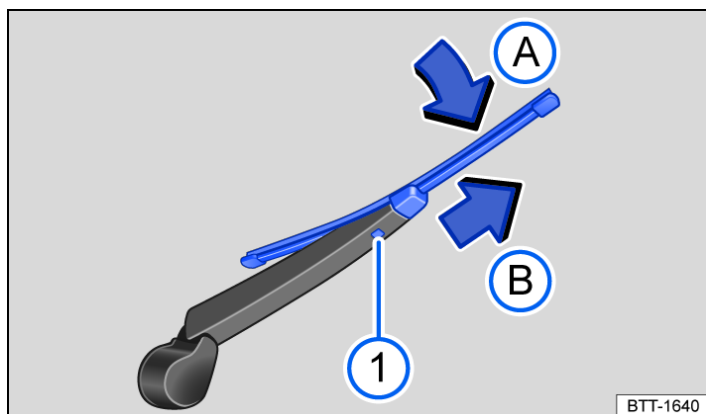

Fig. 2 Changing the rear window wiper blade.
① Unlock button of the wiper blade.
3. Press and hold the release button → *fig. 2* ①.
4. Tilt the wiper blade toward the wiper arm → *fig. 2* A while removing it in the direction of the arrow B. You may need to use more force to do this.
5. Slide a new wiper blade with the same length and design onto the wiper arm in the opposite direction to the arrow until it engages → *fig. 2* B. For this to work, the wiper blade has to be folded out → *fig. 2* A.